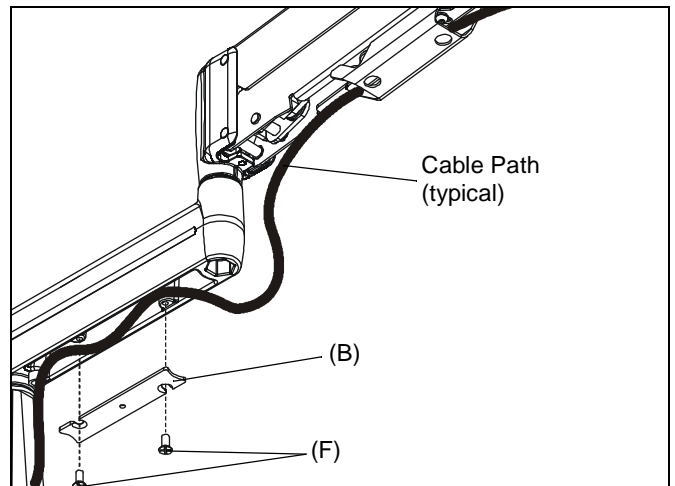

Figure 8
**CAUTION:** Ensure that adequate cable slack exists for movement of display, and that cables will not be pinched by installation of cover (B) or screws (F).
2. Carefully insert cables in cavity located in lower portion of mount arm (See Figure 8).
3. Using Phillips screwdriver, install cover (B) with two screws (F) in each arm.